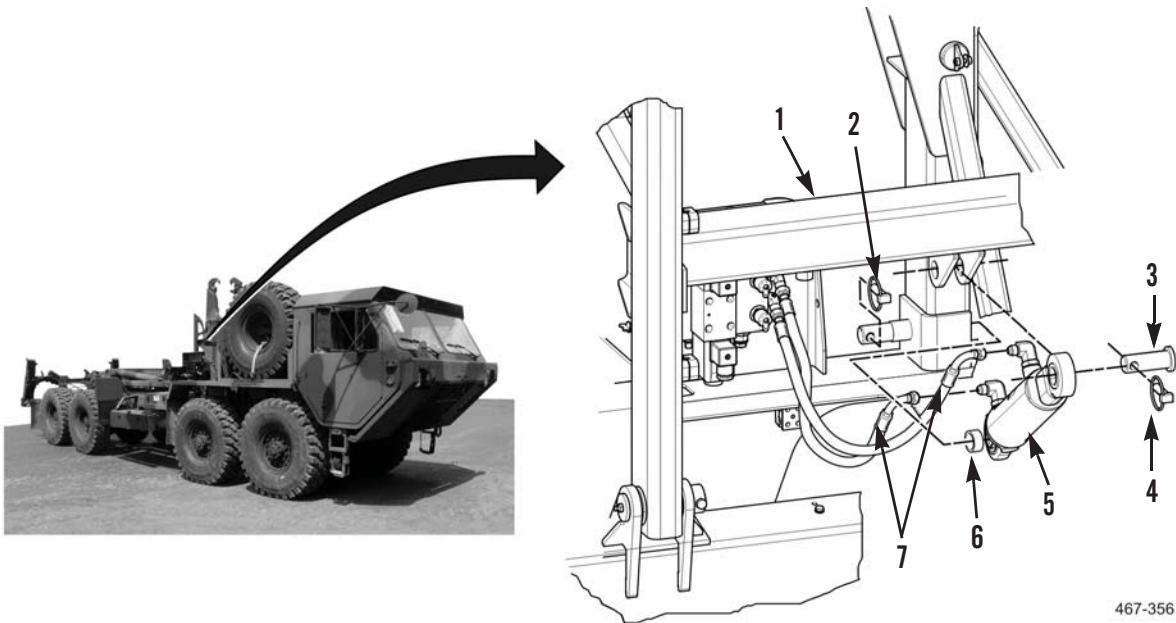

Figure 1. Stowage Actuator.
1. Remove two hydraulic hoses (Figure 1, Item 7) from stowage cylinder (Figure 1, Item 5).
2. Remove snap ring pin (Figure 1, Item 4) and retaining pin (Figure 1, Item 3) from stowage cylinder (Figure 1, Item 5).
3. Remove snap ring pin (Figure 1, Item 2), stowage cylinder (Figure 1, Item 5), and cylinder bearing (Figure 1, Item 6) from stowage assembly (Figure 1, Item 1).
1. Install stowage cylinder (Figure 1, Item 5), cylinder bearing (Figure 1, Item 6), and snap ring pin (Figure 1, Item 2) on stowage assembly (Figure 1, Item 1).
2. Install stowage cylinder (Figure 1, Item 5), retaining pin (Figure 1, Item 3), and snap ring pin (Figure 1, Item 4) on stowage assembly (Figure 1, Item 1).
3. Install two hydraulic hoses (Figure 1, Item 7) on stowage cylinder (Figure 1, Item 5).